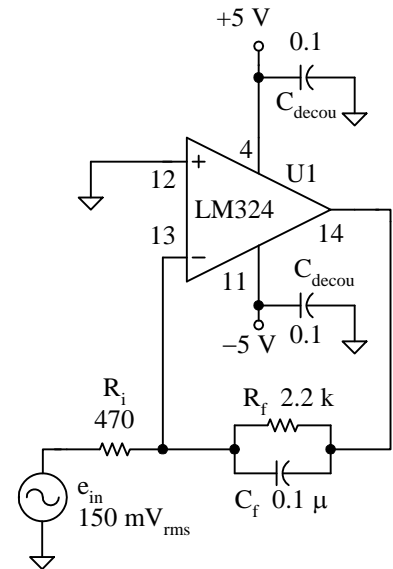

Figure 6-19
1. Build the circuit in Figure 6-19. Keep the leads from the signal generator and the leads to each component as short as practical.